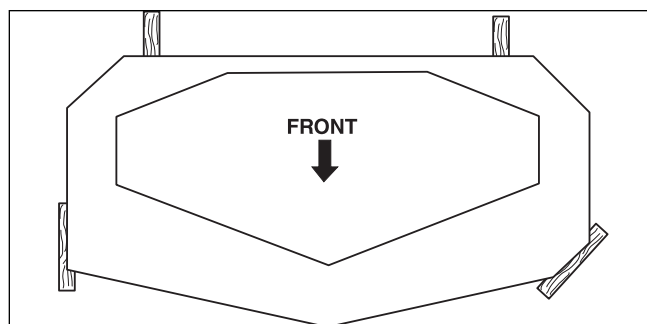

Figure 47. 2 X 4 Locations
3. Place 2 X 4 blocks under each corner of the mower deck with the 3-1/2" sides being vertical. See Figure 47.